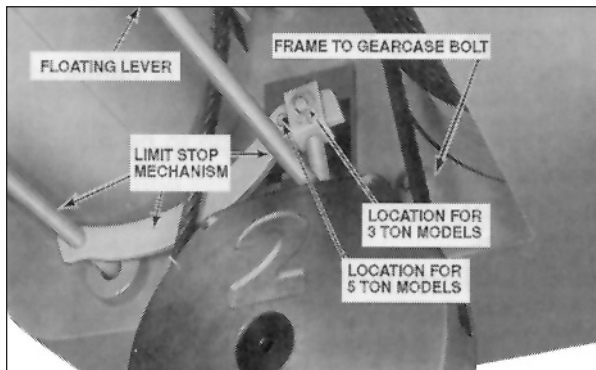

Figure 2-2. Limit Stop Mechanism Being Tripped By Lower Block
1. A block operated upper limit stop (Figure 2-2) is furnished as standard equipment. This limit stop is factory set to stop lower block in its high position and guard against over-travel and possible damage to hoist. (Note mounting position of floating lever for 3 and 5 ton hoists.) No adjustment can be made. Limit switch operation should be tested when hoist is installed. Move hook to a low position by depressing push button marked ↓. Now depress button marked ↑ to raise hook. While hook is traveling upward, manually (or with an extension pole) raise limit stop mechanism (Figure 2-2).